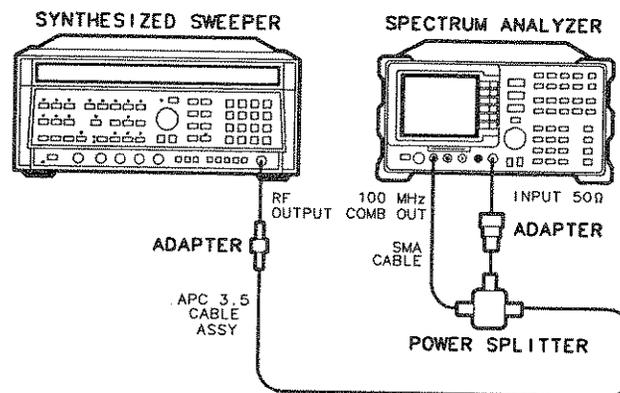

Figure 4-2. Comb Generator Frequency Accuracy Test Setup
1. Connect the equipment as shown in Figure 4-2. *Option 026:* Omit the Type N to APC adapter.